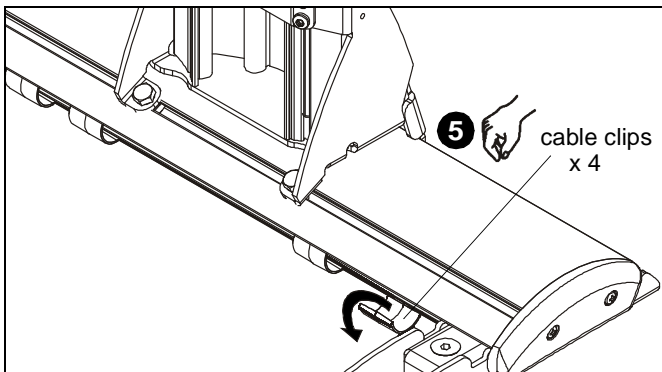

Figure 56
- Open cable clips along bottom edge of wall bracket. (See Figure 56)